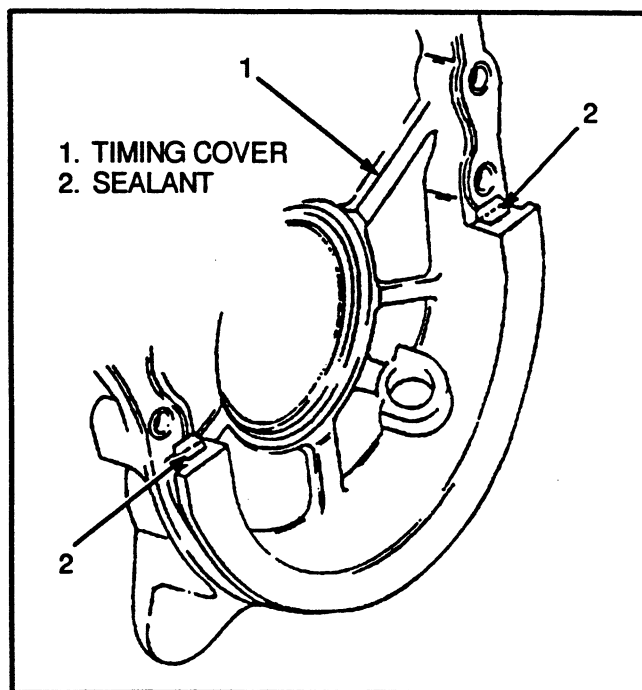

FIGURE 23. TIMING COVER
2. Use an RTV sealant where the timing cover meets the oil sump. See FIGURE 23. Install the gasket and the cover. Tighten the capscrews for the cover to 12 Nm (9 lbf ft).